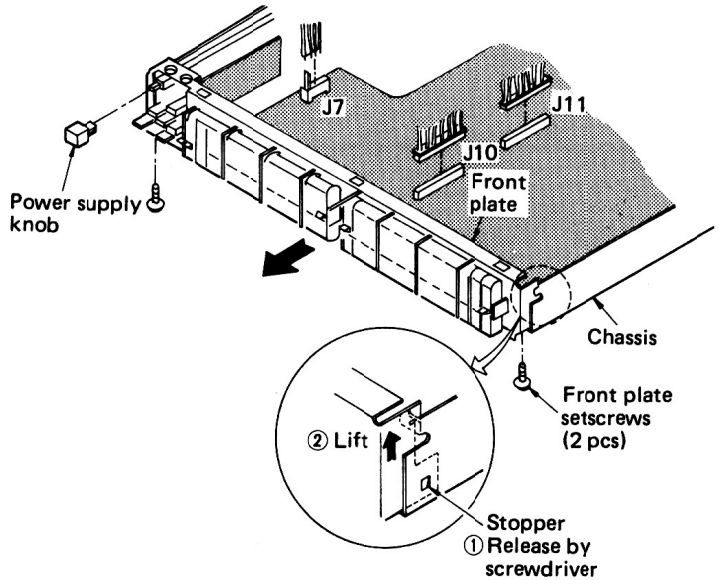

Fig. 3
2. Remove the 2 setscrews of front plate, and 3 connectors (J7, 10, 11). (Fig. 3)